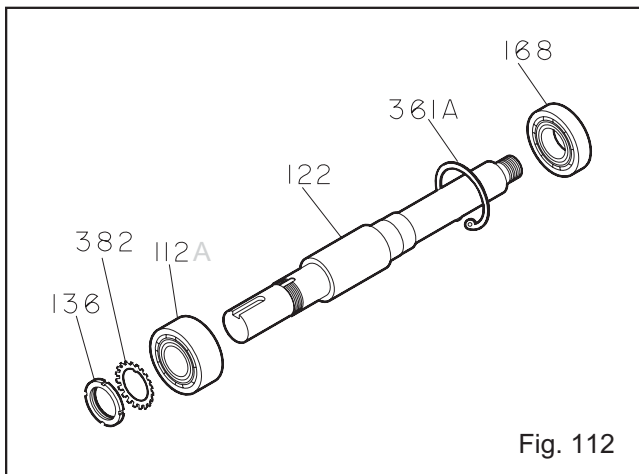

Fig. 112
3. Install outboard bearing (112A) on shaft (122) (Fig. 112).